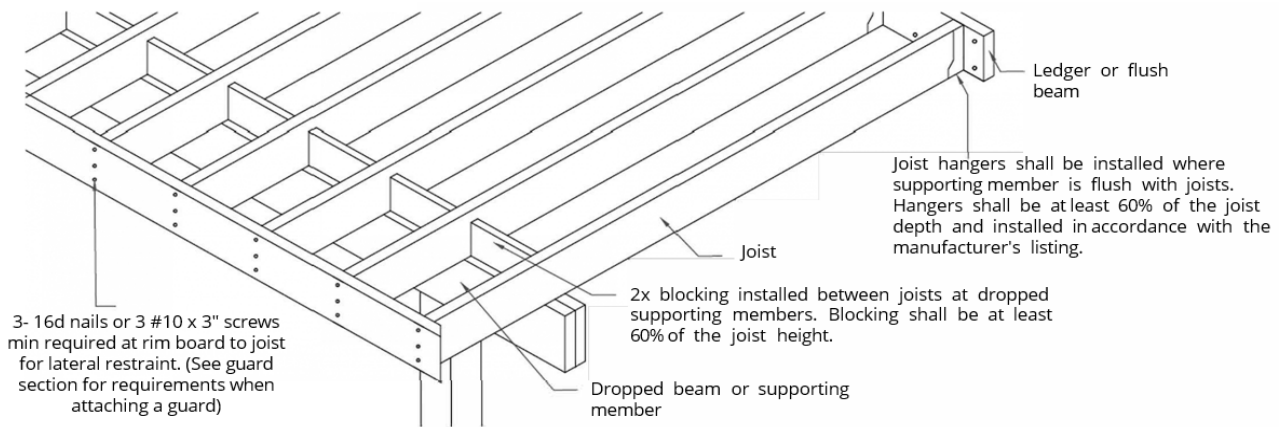

FIGURE 10 – RIM JOIST ATTACHMENT
- A continuous rim joist at the joist ends is required as shown in Figure 10.